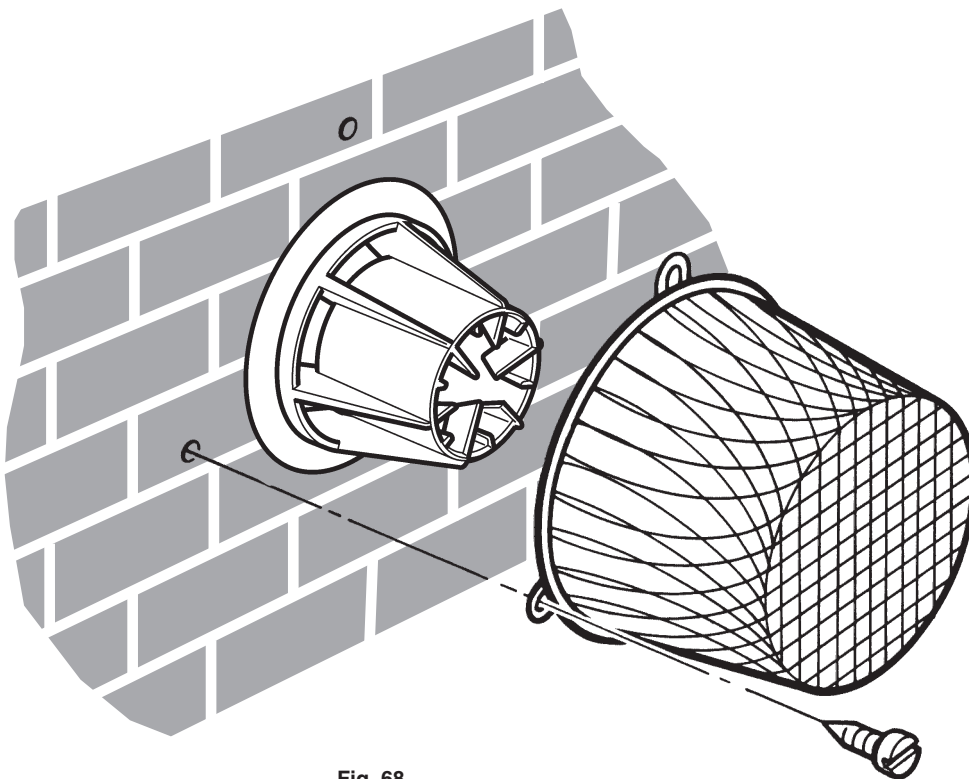

Fig. 68
5.14 Fitting a Terminal Guard (Fig. 68)